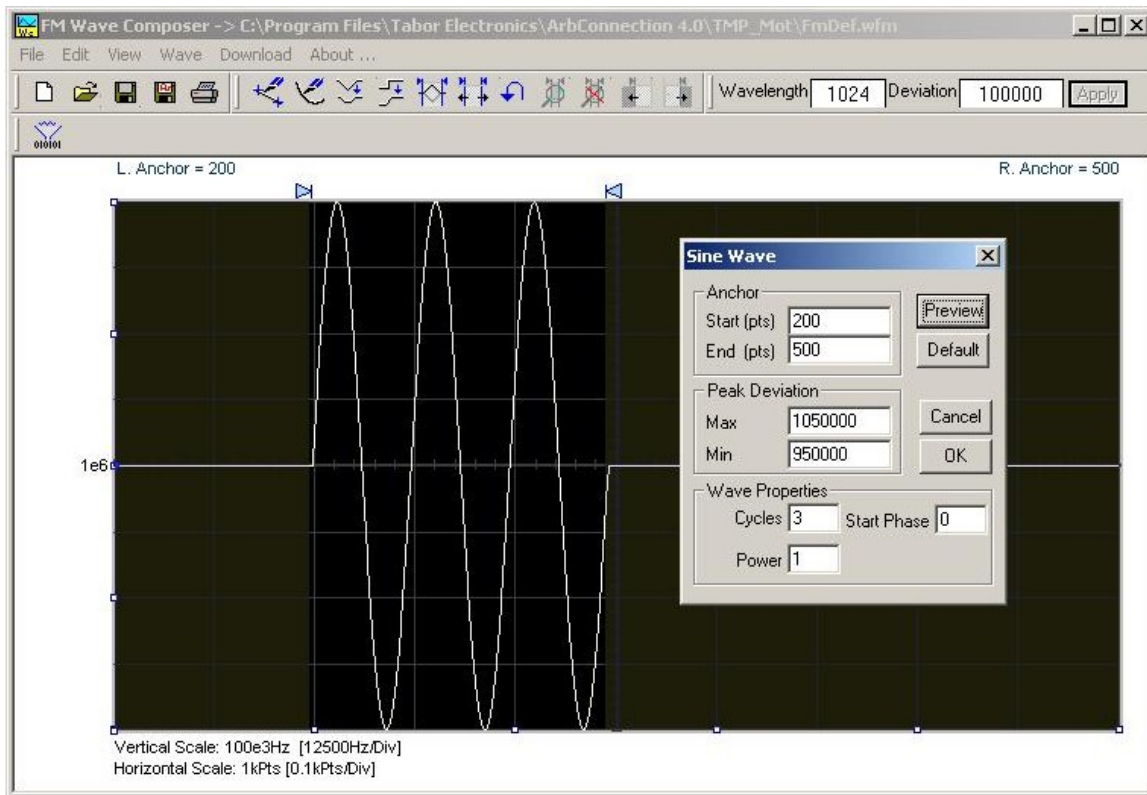

Figure 3-46, Generating Sine Modulation Using the FM Composer
The Pulse Editor as shown in Figure 3-46 has four groups: Section Structure, Pulse Train Design Format, Section Properties and control buttons. These groups are described below.
*Mode of Operation* – This describes the new setting of the operating mode. This field could display one of two options: Arbitrary or sequenced. Pay attention to the note (\*) that says “Select from the menu View>>Options” Since we checked the Force Pulse Train to Single Segment (see Figure 3-46), the generator determines that the waveform mode be arbitrary and only one segment can be loaded with the pulse train.
You can create any waveform from the built-in library using the Wave command. Clicking on one of the Wave options will open a dialog box. An example of the Sine waveform dialog box is shown in Figure 3-46. This dialog box is representative of the rest of the waveforms, so other waveforms will not be described.
Use the following procedure to create sine waveforms from the built-in library. Click on Wave, then sine... the dialog box as shown in Figure 3-46 will appear. You can now start programming parameters that are available in this box.